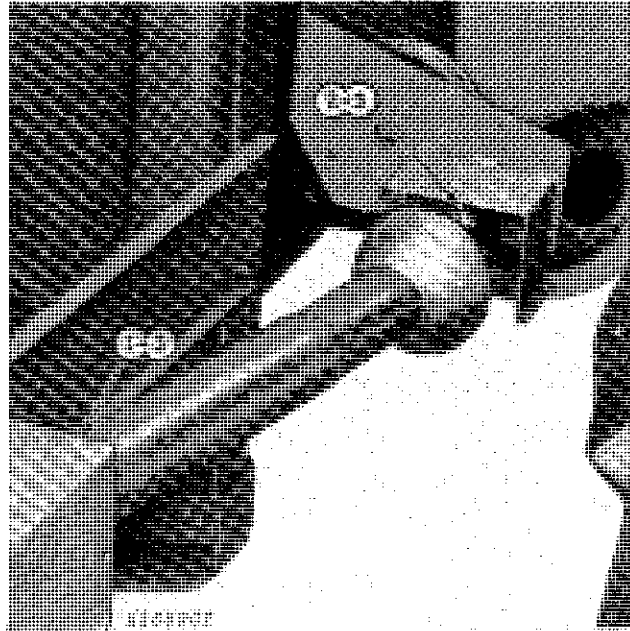

Fig. 109-Connecting Drive Shafts
1. Slide hex end of telescoping shaft on hex shaft of row-crop head (Fig. 109).
2. Slide splined end of drive shaft on the splined feeder house shaft (both sides) (Fig. 109).
3. Tighten clamp bolt on each end of drive shaft (both sides) (Fig. 109).